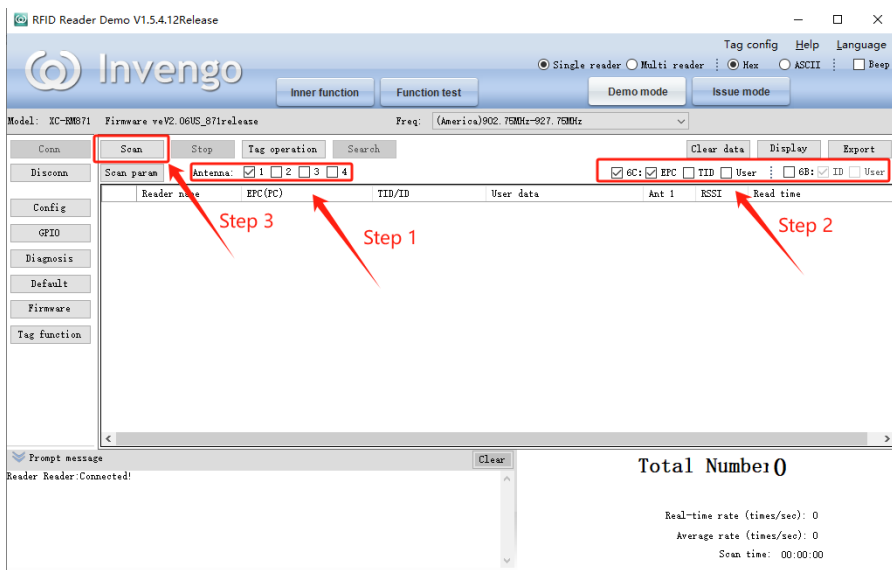

Figure 5-11 Inventory Operation Diagram 1
- 1) As shown in Figure 5-11, select the correct antenna port. For XC-RM871, select “1”;